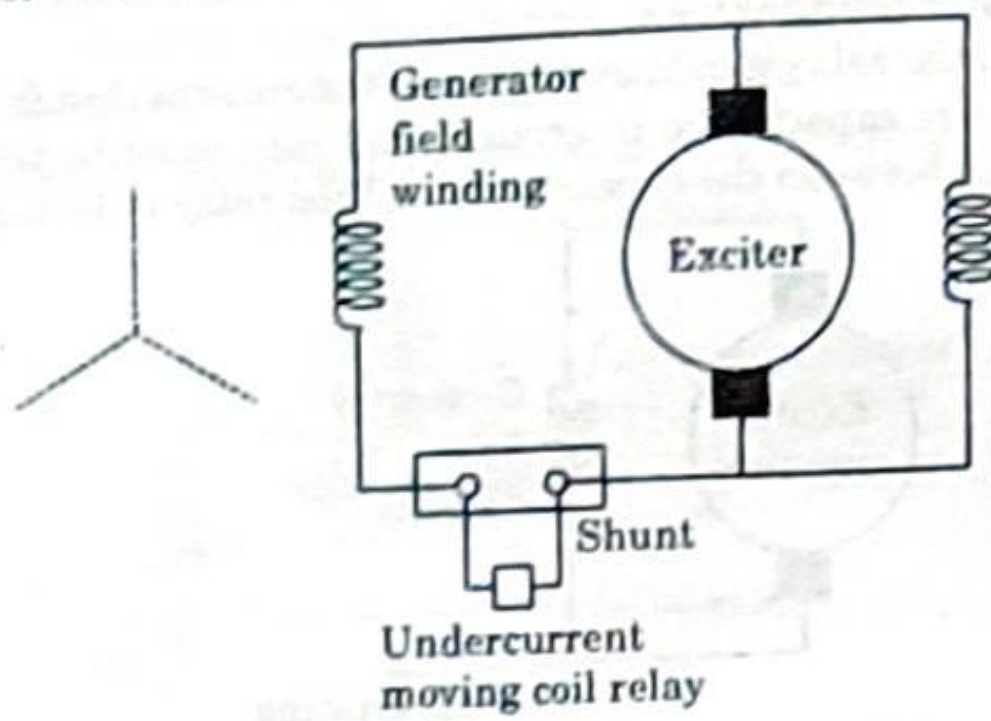

Fig. 3.7.1. Loss of excitation protection.
3. Undercurrent moving coil relay connected across a shunt in series with the field winding for loss of excitation protection is shown in Fig. 3.7.1.